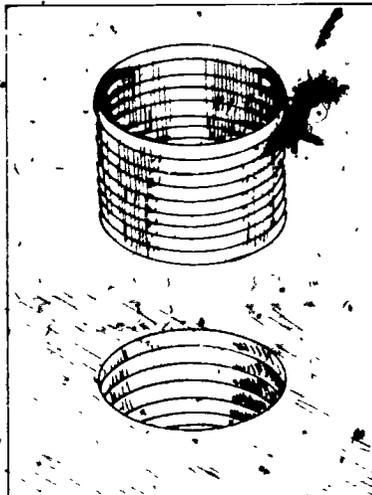

FIGURE 3
- D. Install thread repair insert using appropriate tool (Figure 3)